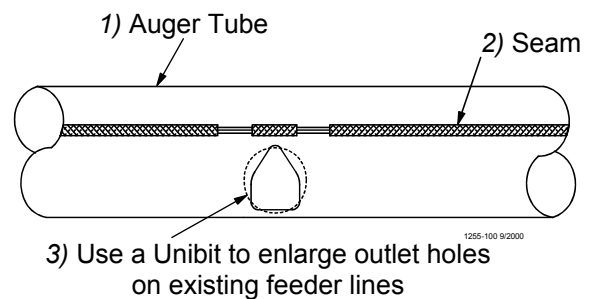

Figure 70. Enlarging Outlet Holes
- a. Assemble the Mid-Line Control over the outlet hole in Tube as shown in **Figure 70**.